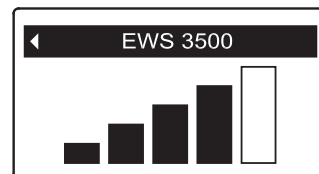

FIG. 106
Begin by checking the signal strength between the conditioner/refiner and the remote. If the signal is weak (2 bars or less on the display shown in Figure 106), move the remote to a different location to try improving the signal strength.
4. Press the SELECT (○) button, and the screen shown in Figure 106 will appear. The more bars that are filled in black, the stronger the signal. The signal strength display updates every 15 seconds.